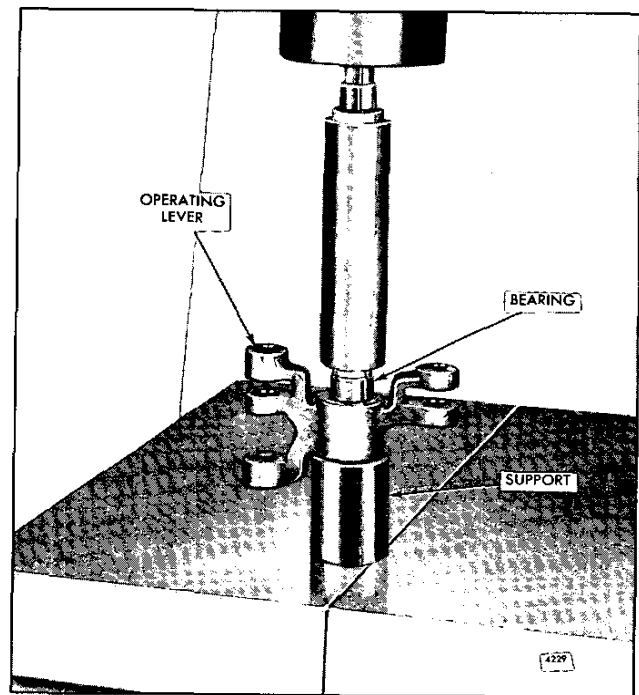

Fig. 11 - Installing Control Link Operating Lever Bearings in Lever Using Tool J 21068
- j. If removed, place the control link operating lever on the bed of an arbor press with a steel support under the bearing bore. Lubricate the bearing with engine oil and start the bearing, numbered end up, straight into the bore of the lever. Insert the pilot end of installer J 21068 in the bearing and press the bearing into the lever until it is flush with the top surface of the lever (Fig. 11). Reverse the lever on the press and install the second bearing in the same manner.